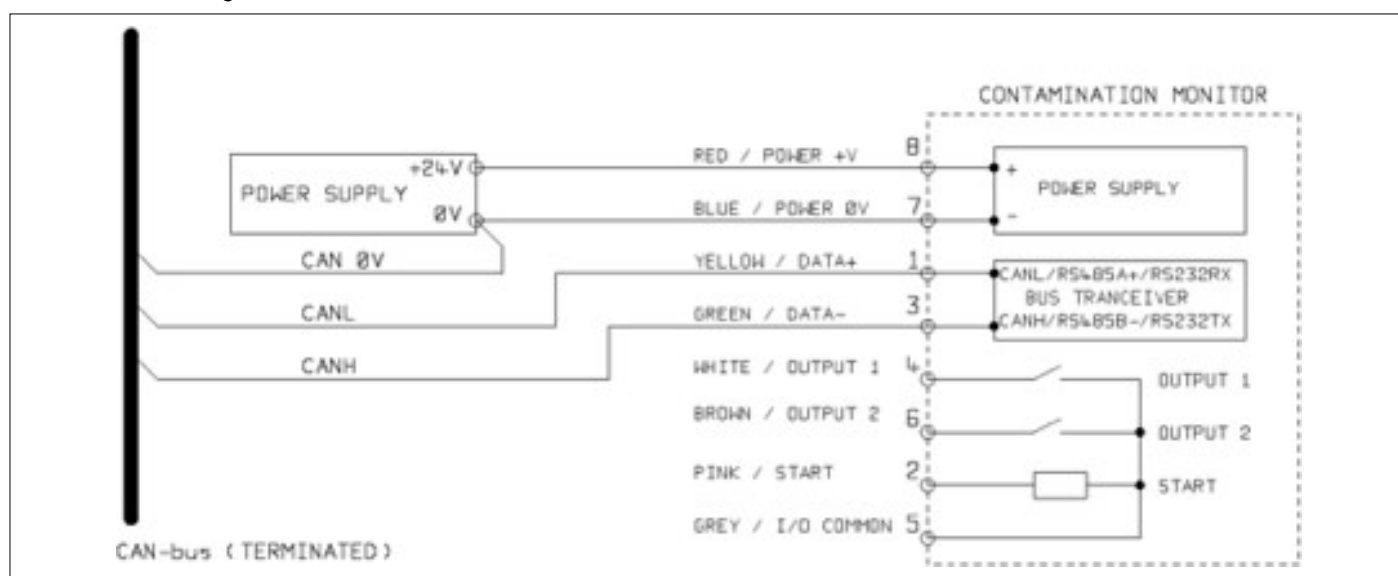

Figure 5.31
- Connect the ICM 4.0 to your CANbus network and provide a 24VDC power supply, as per figure 5.31.